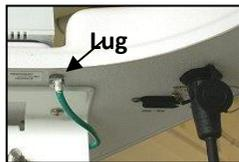

Figure 28: The ground lug connected to the bottom of the WeatherHawk.
1. Connect the lug of the 14 AWG copper wire to the connector labeled Ground Lug on the bottom of the WeatherHawk station (Figure 28).